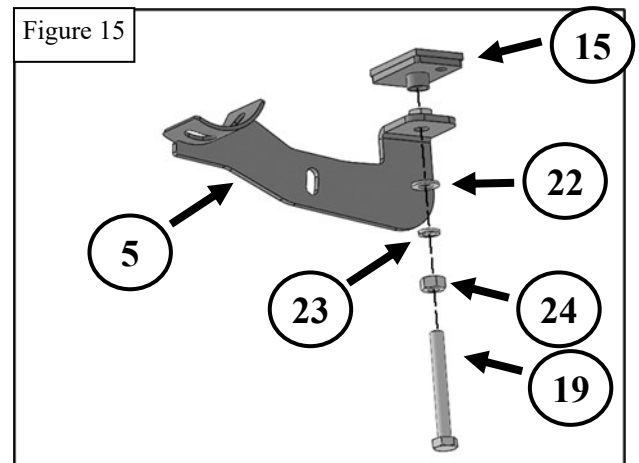

Figure 15
16. **COMPRESSION PAD INSTALLATION:** use the configuration of the M10 hardware shown in **Figure 15**. Thread one M10 hex nut onto a long M10 hex bolt (Item 19), then place one M10 lock washer (Item 32) and one M10 flat washer (Item 31) onto the M10 hex bolt.
(**Fig 15**) Follow link for Center Support Pad.